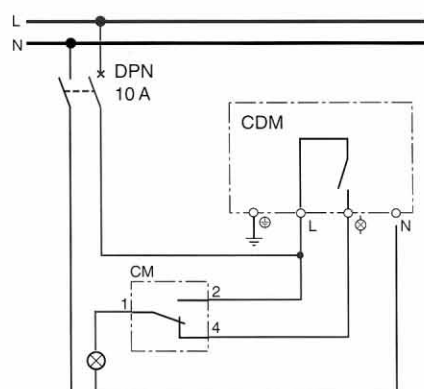

fig. 3
- diagram (fig. 3): use of a CM allows "ON" override or automatic operation of lighting of a sector